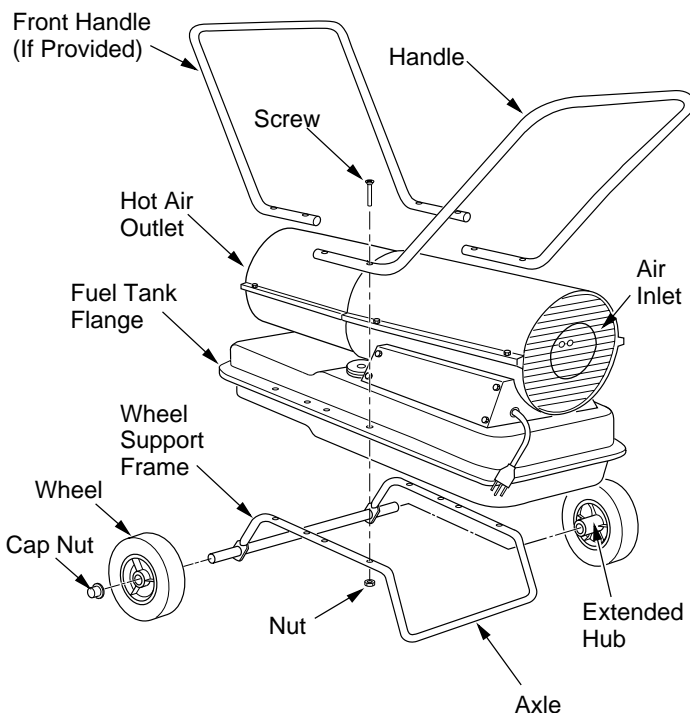

Figure 5 - Wheel and Handle Assembly, 110/115/150/155/165/200 Models Only
1. Slide axle through wheel support frame. Install wheels on axle. **IMPORTANT:** When installing wheels, point extended hub of wheels toward wheel support frame (see Figure 5).